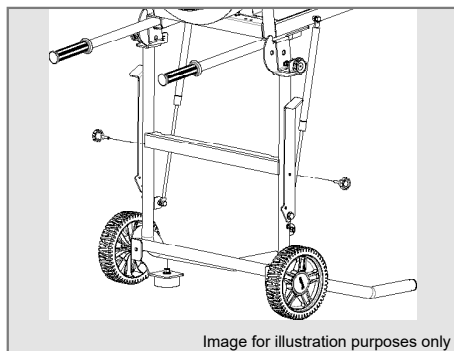

Figure C-2
- ✓ With the machine in the working position, loosen the handle that holds the stability support, on the side of the machine, and remove the handle as shown in Figure C-2. After that, the operator must move downwards the stability support until it touches the ground and uses the knob in the hole below, thus securing it.